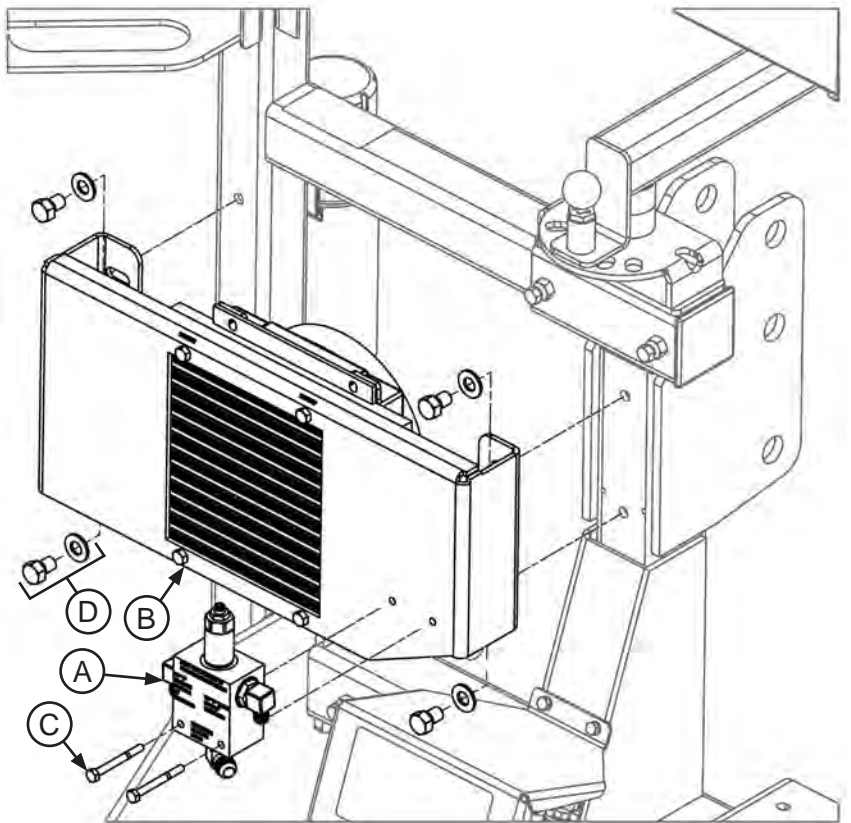

Fig.6.2
2. Fasten the cooler assembly to the bale wrapper frame and tensioner mount with 4 1/2" x 3/4" hex bolts and 4 1/2" washers **(D)**. See Fig.6.2.